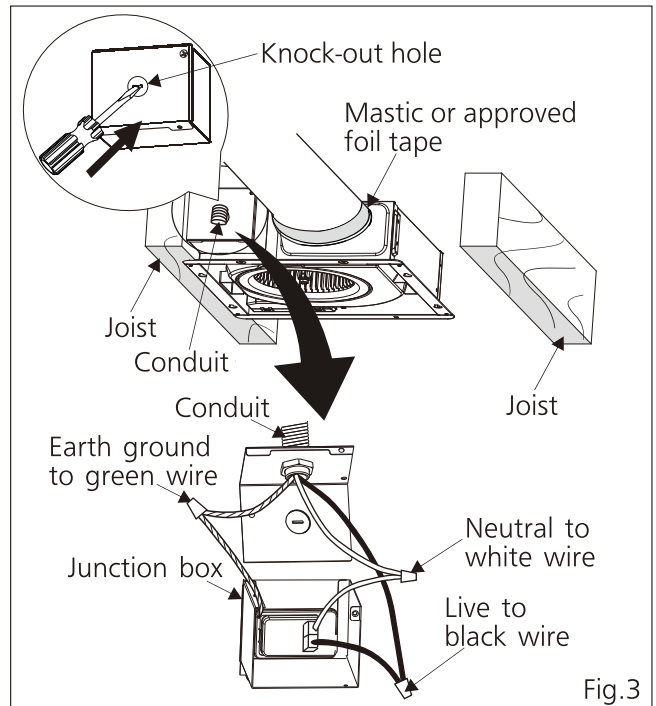

Fig.3
- Remove junction box cover and secure conduit or stress relief to junction box knock-out hole. (Fig.3)
- Refer to wiring diagram (P.5), follow all the local electrical safety codes as well as the National Electrical Code (NEC). Using UL approved wire nuts, connect house power wires to ventilating fan wires. (Fig.3)
- A 4 inch circular duct is needed to connect to the relevant part of adaptor. Squeeze a circular exhaust duct to fit the adaptor, then slip it onto adaptor and secure it with clamps, or ties and seal it with mastic or approved foil tape. (Fig.3)